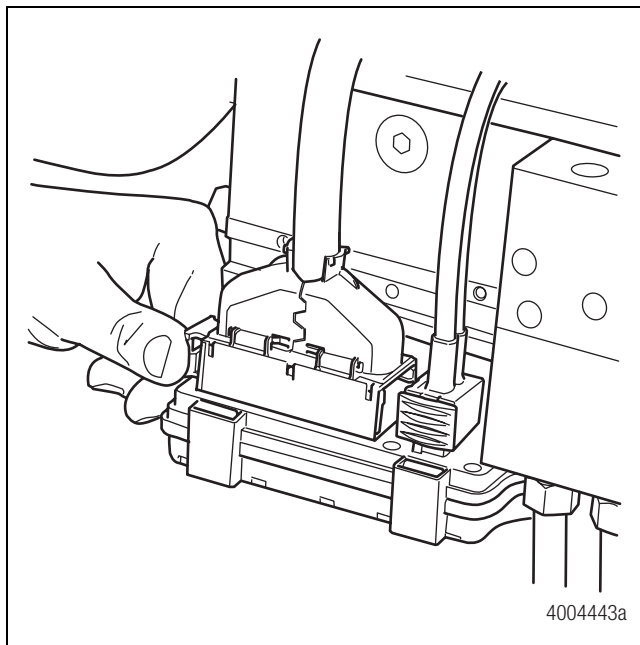

Figure 15
5. First attach the 31-pin harness connector. Then, attach the two-pin power harness connector to the ECU. Push the latch into position to lock the connection. Figure 15.